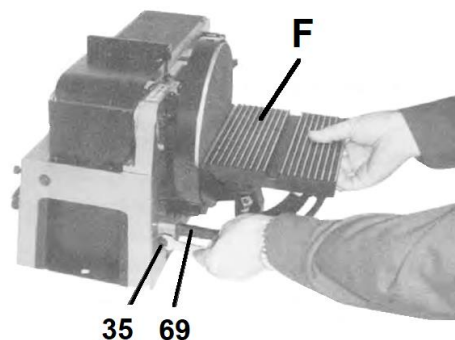

Figure 6-6: Mounting sanding table
Insert the support rod (69, Fig. 6-6) into the base and secure in place with screw (35). Slide the sanding table (F) onto the support rod and clamp with screw.